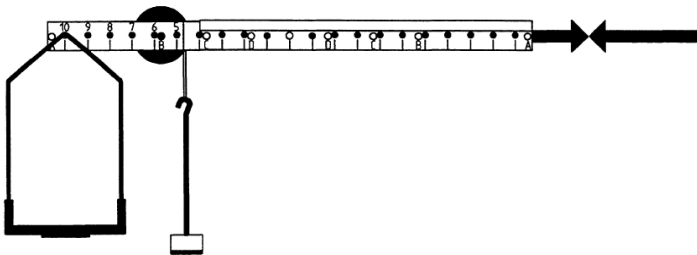

Fig. 2: Experimental setup
- Cover the upper part of the lever with an approx. 32 cm long piece of the adhesive tape; use the remainder to cut out an arrow similar to the pointer for the demo board and stick it onto the rear wall of the lever so that it protrudes sufficiently (see Fig. 2).
- Use the pointer for the demo board to mark the position of the arrow on the lever when the scale is balanced (see Fig. 2) and on the paper (right side of the lever) the position of the loaded weight holder that forms the moving weight (this determines the zero point of the scale for the steelyard); measure the distance l of the zero point from the pivot point (from the centre of the axle) and note it in Table 1.